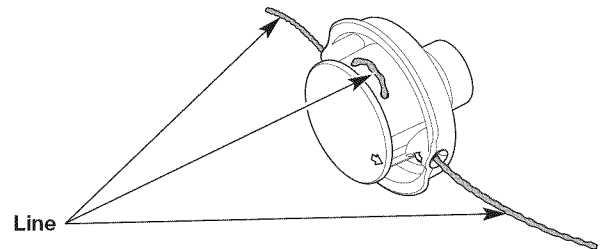

Fig. 14
4. Pull the ends of the line until the line is tight against the cutting head. Make sure the ends of the line are of equal length (Fig. 14).